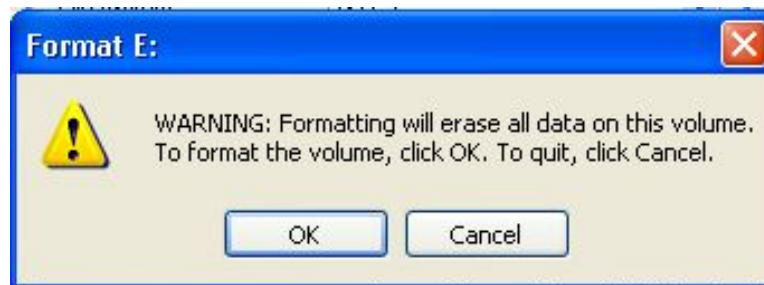

FIGURE 6-37. Format E: Warning Dialog Box.
17. The *Format E:* warning dialog box appears. Click **OK**. See Figure 6-37.